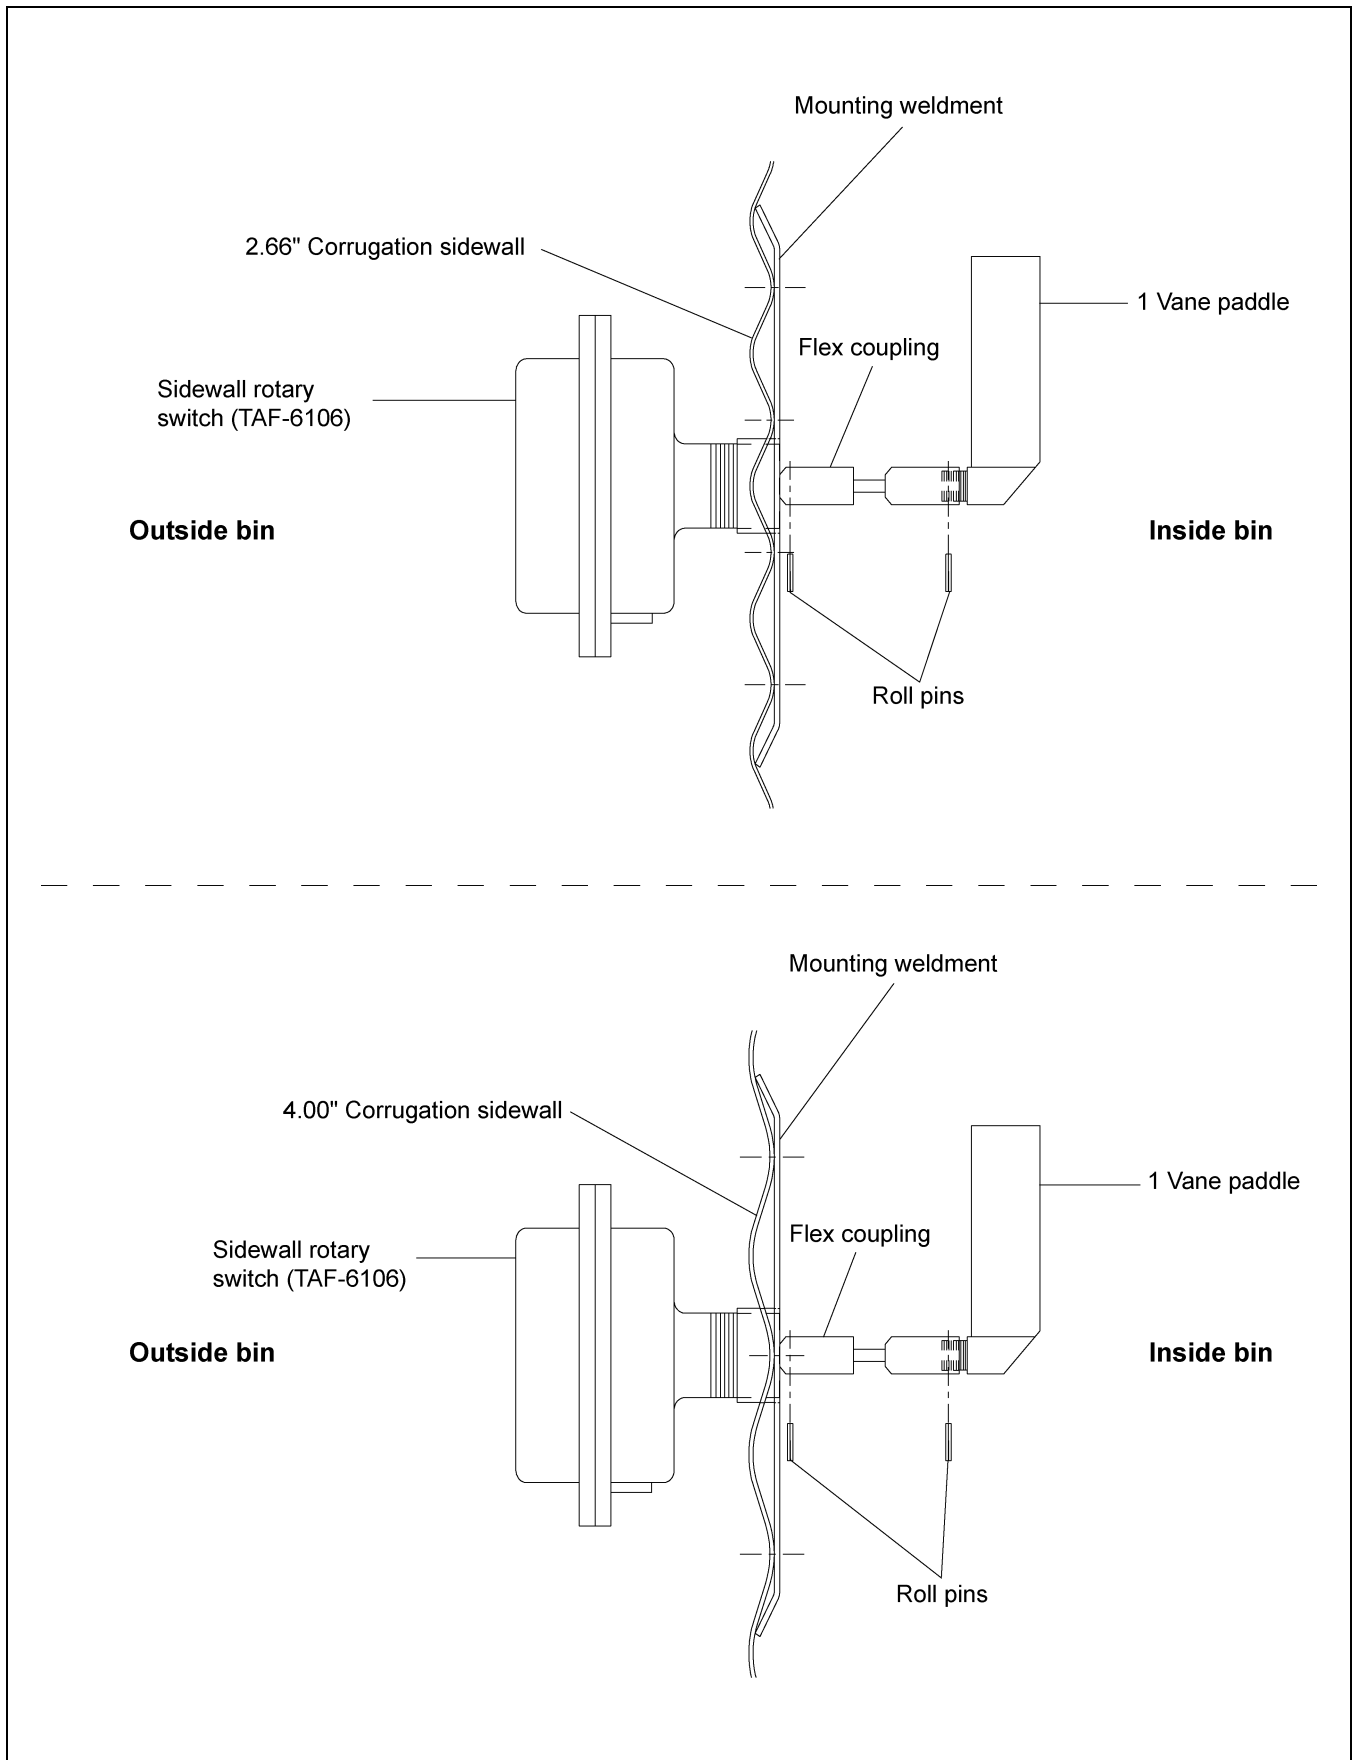

Figure 3N
4. Use the mounting plate as a pattern and drill four (4) 3/8" holes through the sidewall at the switch location so the plate can be bolted to the bin.
9. Attach the 1 vane paddle to the flex coupling as shown in Figure 3N on Page 24.